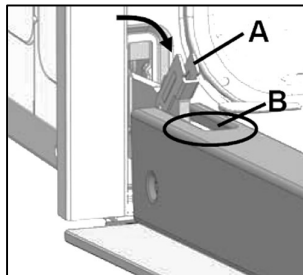

Figure 8
- Open the lever A completely on the left and right hinge (Figure 8)